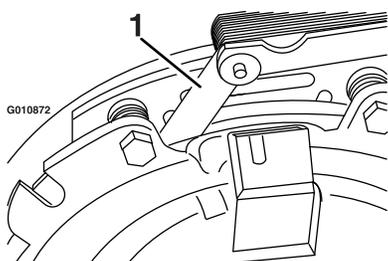

**Figure 78**
- B. Using needle-nose pliers, or by hand, hold the tab and remove the shim (Figure 78).
Remove any buildup of grass, dirt, or other debris from the engine screen. This helps ensure adequate cooling and correct engine speed and reduces the possibility of overheating and mechanical damage to the engine (Figure 78).